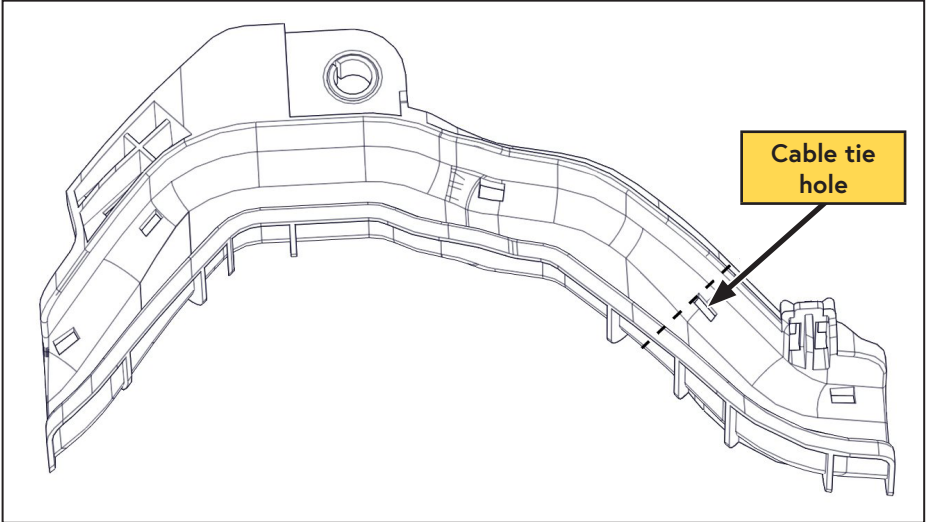

Figure 17 — Additional cable tray modifications
- Mark a line along the edge of the cable tie hole (Figure 17).